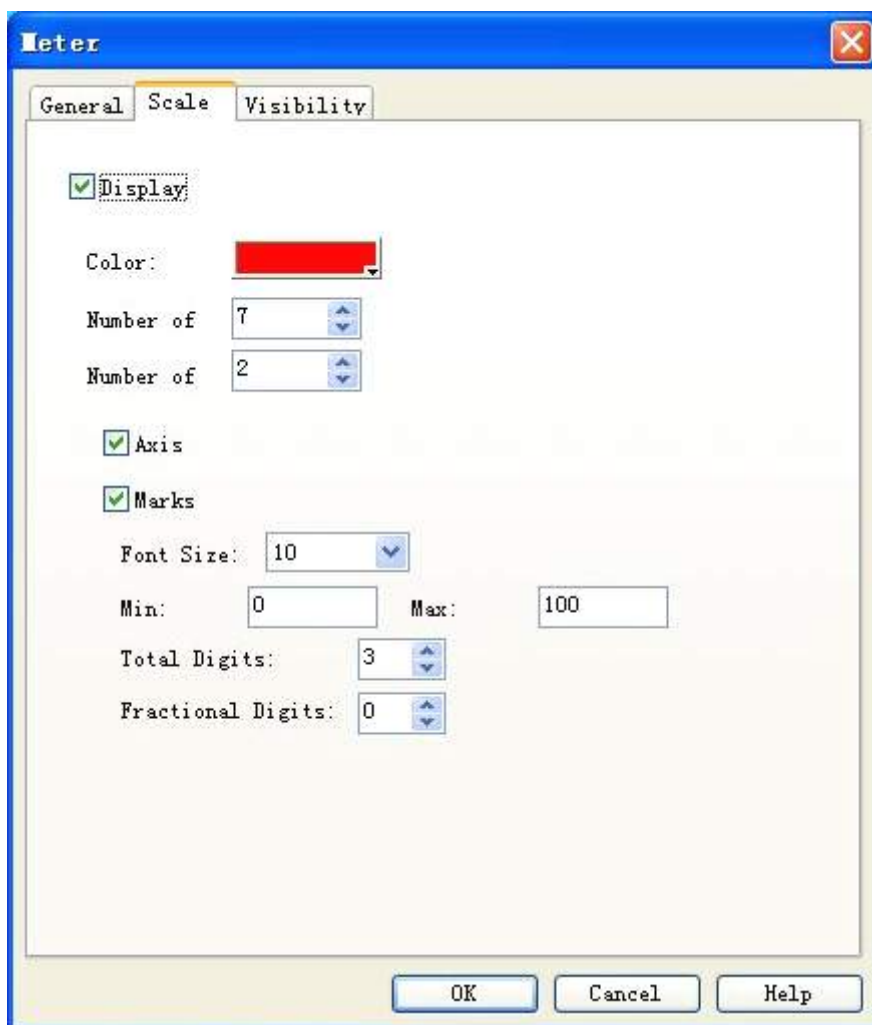

Figure 4-100: Scale tab of Meter
2. Click the Scale tab to set scale properties. See Figure 4-100.